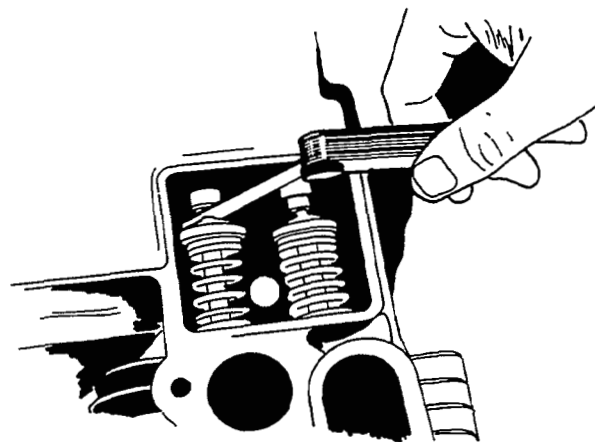

FIGURE 9-12. VALVE CLEARANCE ADJUSTMENT
4. Clearances are listed in the Specifications section. For each valve, the gauge should just pass between the valve stem and valve tappet (see Figure 9-12).